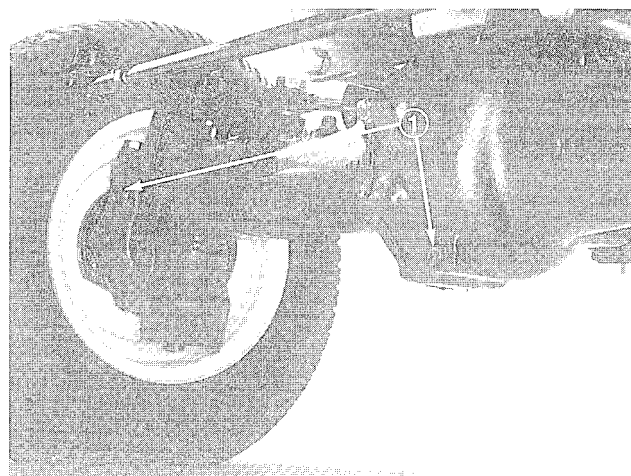

Figure 52
(Model 30455 only) (Fig. 52)
2. Clean area around the (3) drain plugs, (1) on each end and (1) in the center (Fig. 52).